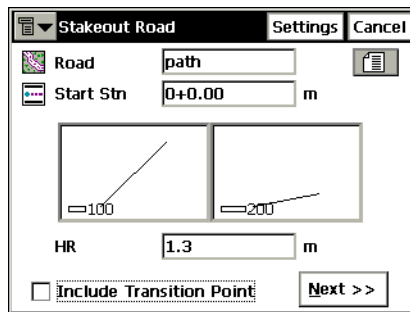

Figure 7-33. Stakeout Road
2. In the *Stakeout Road* screen, set the road to be staked out and the starting station, the height and the type of the antenna height (GPS mode), or the height of the rod (target) (TS mode). If staking the transition points (points where horizontal elements of the road change), check the appropriate field (Figure 7-33). Tap **Next**.